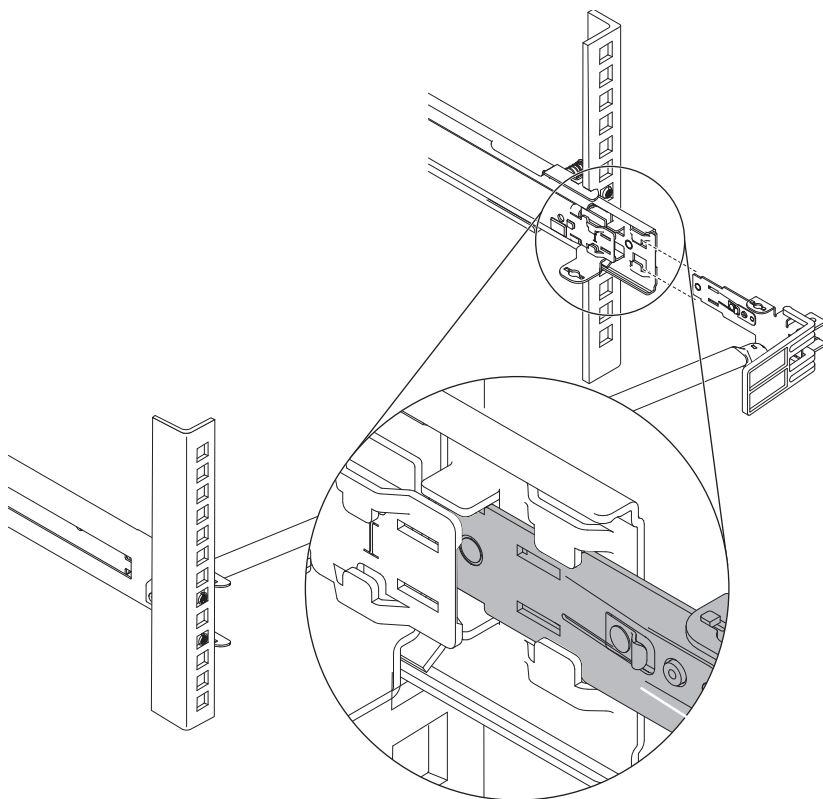

Figure 14. Disconnecting the stop bracket from the slide rail
7. Disconnect the stop bracket from the slide rail, as shown in Figure 14 on page 29 and remove the cable-management stop bracket.